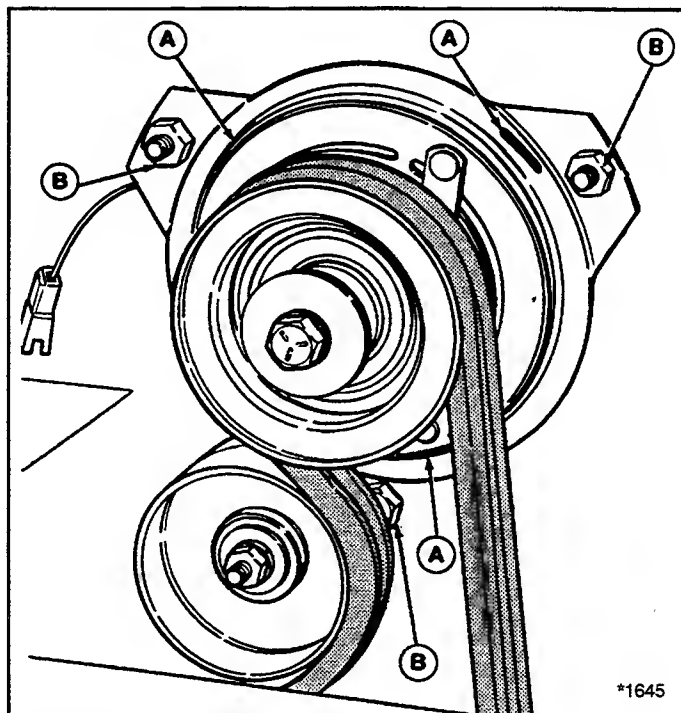

Figure 28. Front PTO Adjustment
2. Use a 0.010" - 0.012" feeler gauge to check front clutch at three slots (A, figure 28). There should be a slight resistance as gauge is moved in and out of slot. If tight or loose, proceed to step 3.
3. Loosen or tighten one of the nuts (B, figure 28) to achieve slight drag on feeler gauge. Check the other two slots and adjust accordingly.
- See figure 28. Loosen both jam nuts (B) on both rods (only one shown). Turn the bolt (C) in to raise front of mower, or out to lower front of mower. Be sure to adjust both sides equally.
- When measurement is correct, tighten both nuts (B) securely while holding bolt (C).